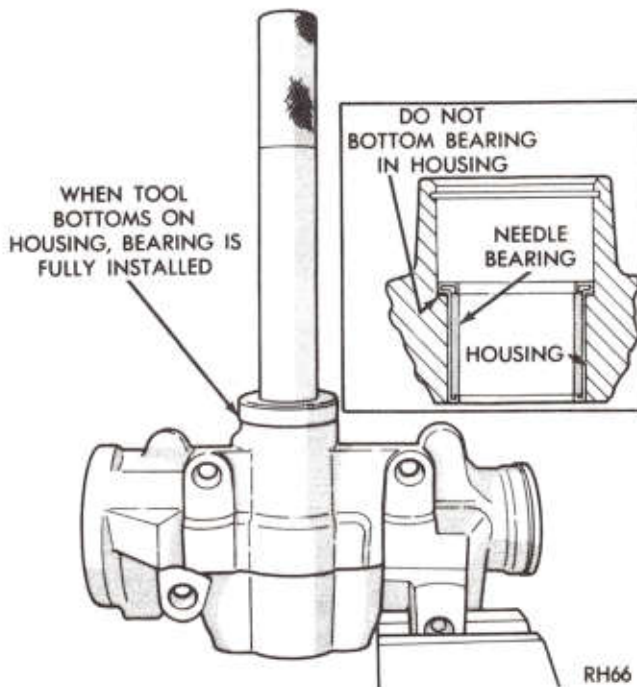

Fig. 21—Install Sector Shaft Bearing
(1) Using Tool C-4171 and adapter C-4178, install needle bearing on bearing installing tool with bearing face against tool. Position the bearing in the housing having identification marks away from tool then press in until the tool bottoms against the housing. When the shoulder of the tool contacts the gear housing the bearing is correctly positioned (Fig. 21).